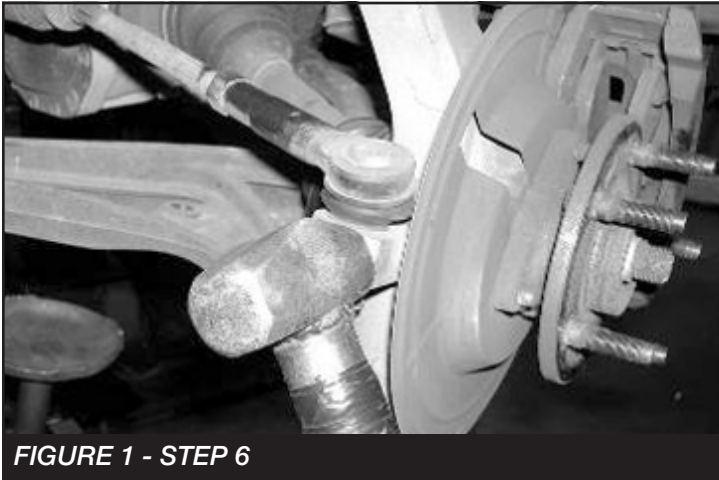

FIGURE 1 - STEP 6
6. Working from the driver side of the vehicle, disconnect the tie rod end from the steering knuckle by striking the knuckle to dislodge the tie rod end. Do not remove the factory Jam Nut from the inner tie rod. Discard the outer tie rod as a new Fabtech tie rod end will be installed later. **SEE FIGURE 1**